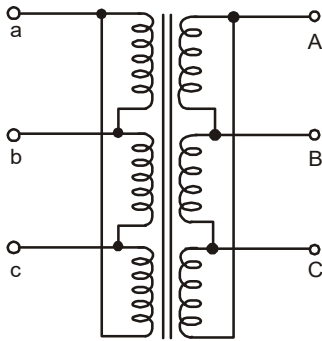
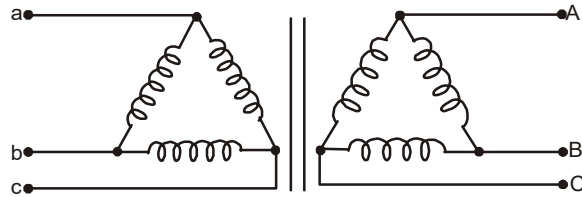

Fig. 3.28: Windings connected in delta-delta
Fig. 3.29: D-D Connections
- (ii) **Delta-Delta connected 3-phase transformers :** Bunches of these windings of a 3-phase transformer are connected in delta on both the primary and secondary sides as shown in fig. 3.28. and fig.3.29. The line voltages are now simply the voltages across the individual transformer windings and there is no visible neutral.